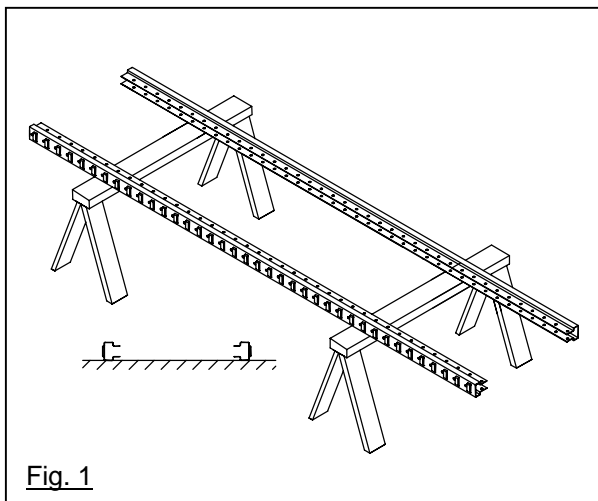

Fig. 1
- STEP 1. Lay 2 upright sections down on a flat and even surface, or on a pair of trestles at a comfortable height at which to work. Ensure that both uprights are orientated in the same direction and that the top and bottom of the uprights are noted. Fig. 1 & 4